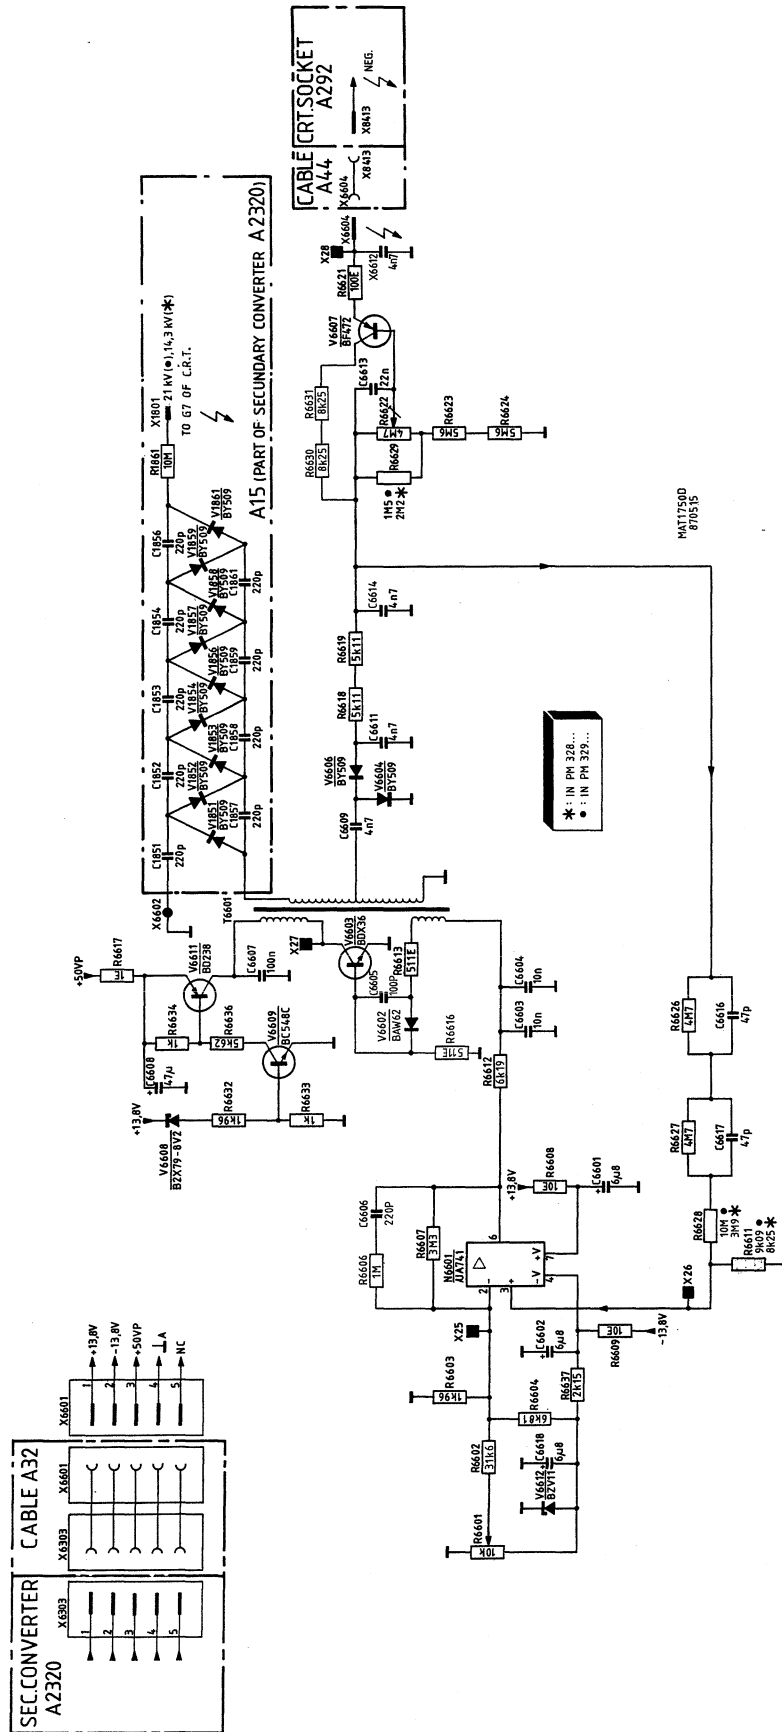

Fig. 20.3. High-voltage converter, circuit diagram.
20. CIRCUIT DESCRIPTION OF HIGH VOLTAGE CONVERTER UNIT (See fig.20.3).